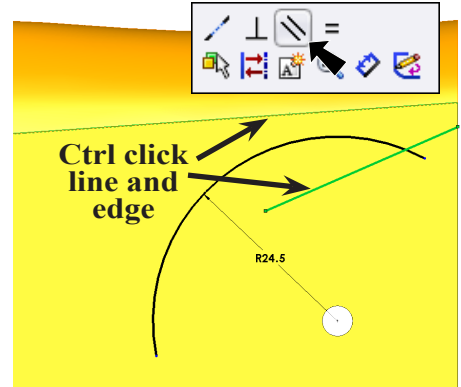

Fig. 93
Step 11. **Ctrl click line and top edge of body, Fig. 93.**
Step 12. Click **Make Parallel**  on the Content menu, **Fig. 93**.